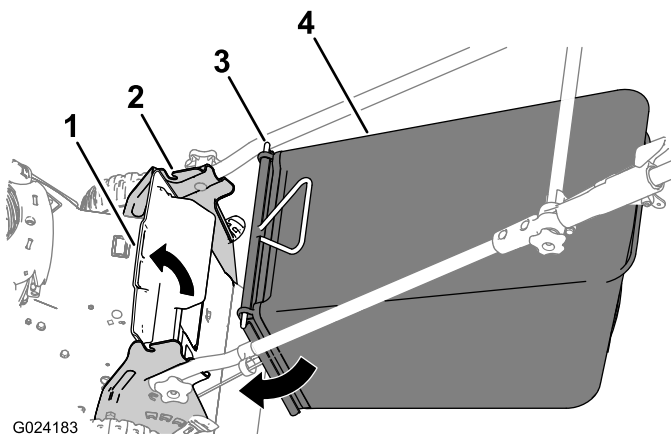

Figure 12
1. Lift up the rear deflector (Figure 12).
2. Insert the rod ends of the grass bag into the notches in the handle brackets (Figure 12).